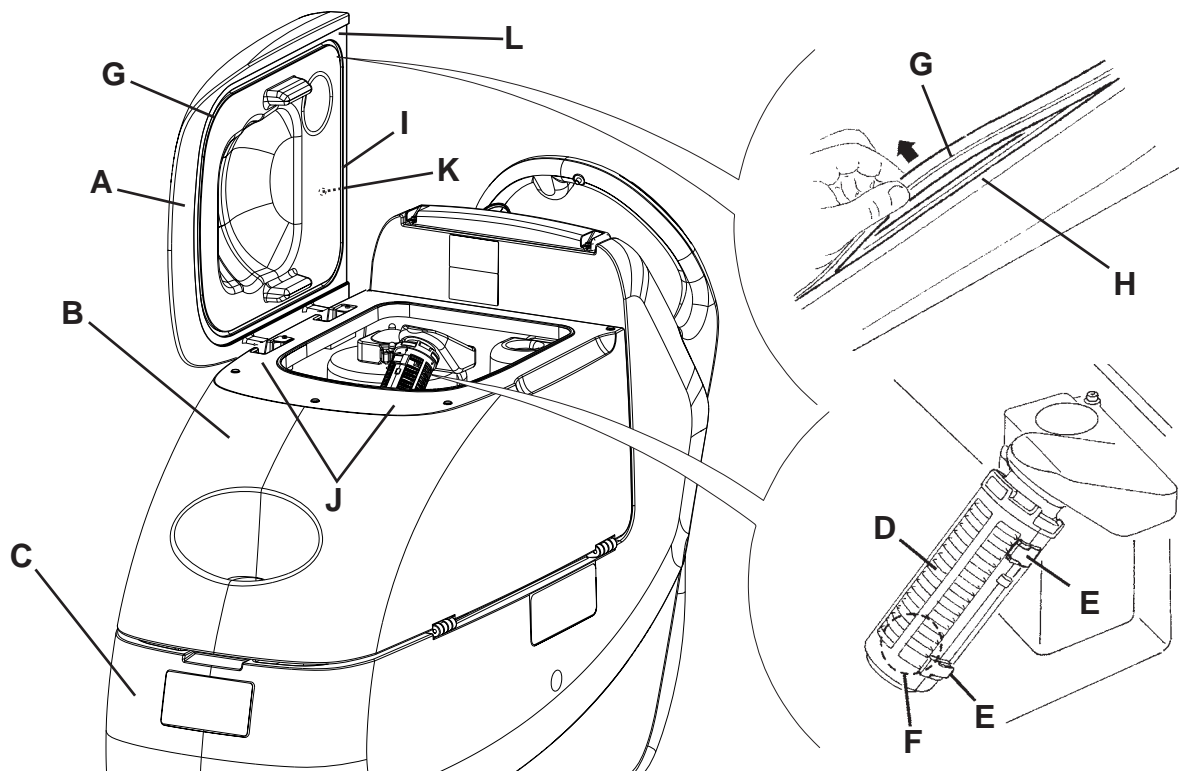

Figure 9
2. Turn the ignition key (80) to "0".
3. Open the cover (A, Fig. 9) to washing position (L).
4. Wash with clean water the cover (A), the tanks (B and C) and the vacuum grid with automatic shut-off float (D).